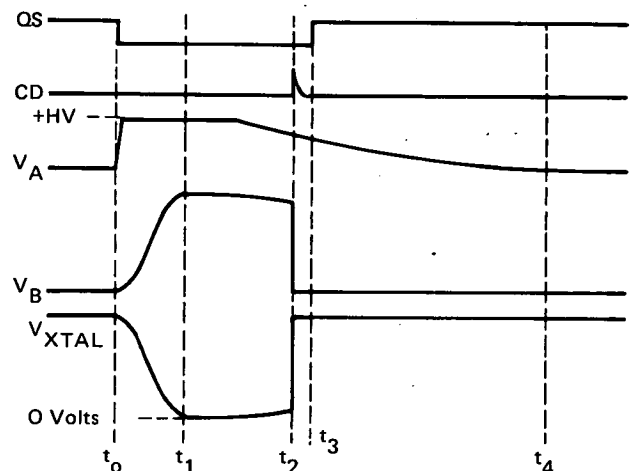

Figure 2. Timing Diagram
cavity-dumping (CD) terminals. The QS command is applied at a time t_0 (see Figure 2) to the primary of the high-voltage isolating transformer T_1 . A triggering pulse is produced at the secondary T_1 and applied directly to fast switch #1 (a series-connected chain of 2N5401 pnp transistors). Before the signal is applied, the full high voltage is across the fast switch. Upon receipt of the QS command at t_0 , the switch shorts, connecting the anode of diode D_1 , and hence point A, rapidly to the high-voltage source. The rise time at point B (t_{rB}) may be determined from the following equation (if C_1 is $\gg C_B$).